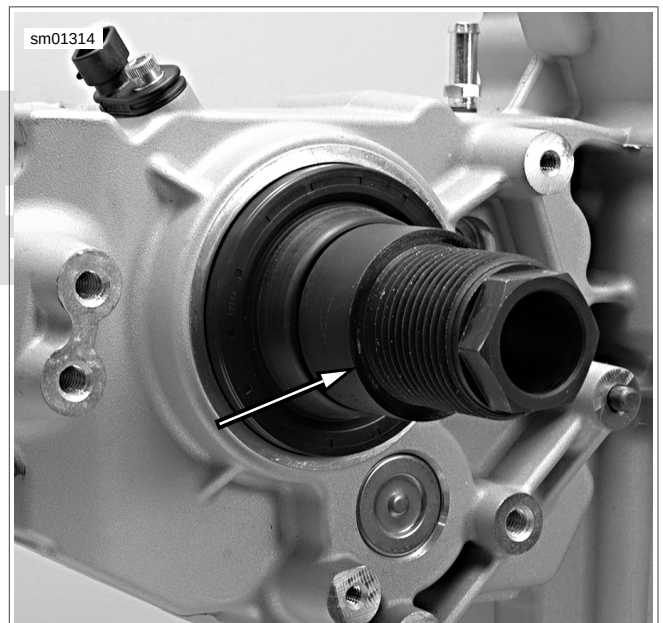

Figure 5-88. Install Adapter (typical, XL model shown)
6. See Figure 5-88. Thread ADAPTER (Part No. HD-47856-4) onto end of main drive gear several turns. Do NOT tighten on drive gear. Doing so could make it difficult to remove adapter after seal has been installed.